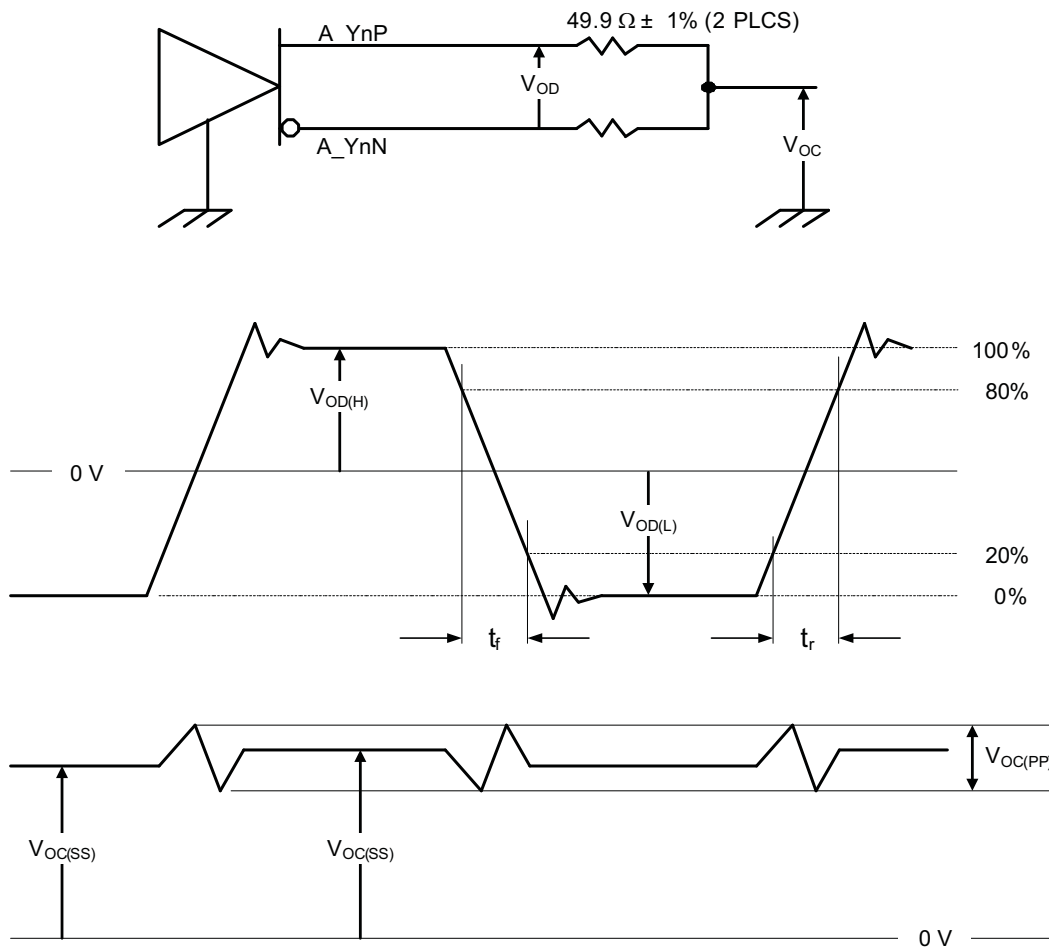

Figure 3. Test Load and Voltage Definitions for FlatLink™ Outputs
| V OC(SS)         | Steady state common-mode output voltage (3)                            | CSR 0x19.6 = 1 and CSR 0x1B.6 = 1see <a href="#">Figure 3</a> | 0.8  | 0.9                | 1    | V    |
|                             |   | CSR 0x19.6 = 0, see <a href="#">Figure 3</a>                      | 1.15 | 1.25               | 1.35 |      |
| V OC(PP)         | Peak-to-peak common-mode output voltage   | see <a href="#">Figure 3</a>                                      |      |                    | 35   | mV   |